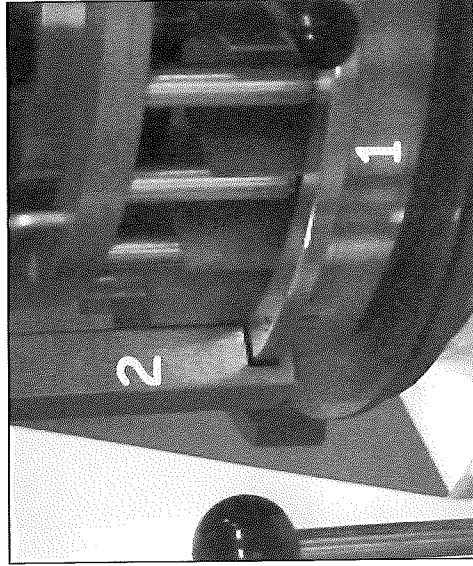

Figure 8
3. Hold handle in this position, grasp outer edges of the ring (Fig. 8, No. 1) keeping fingers out of the divider/plug area. Rotate ring 1/4 turn until slots are in line with the arms (Fig. 8, No. 2).
5. Remove ring (Fig. 8, No. 1) from machine, set ring aside on work bench. Do not drop or bump ring, as this can cause nicks or other damage to occur.